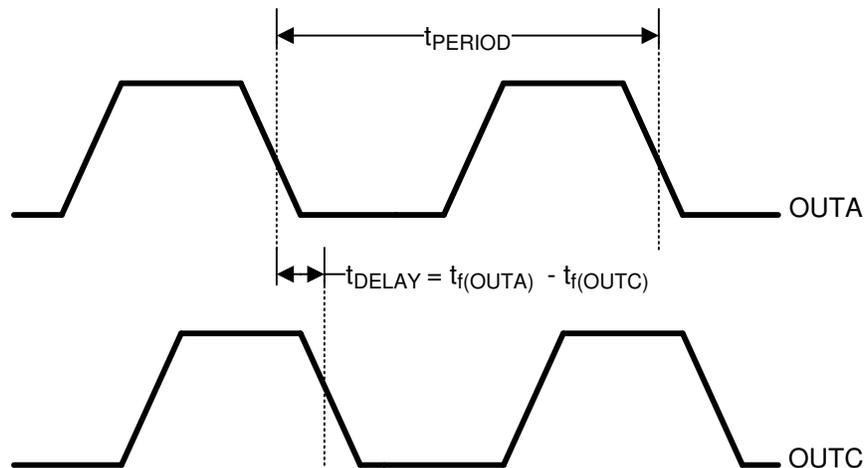
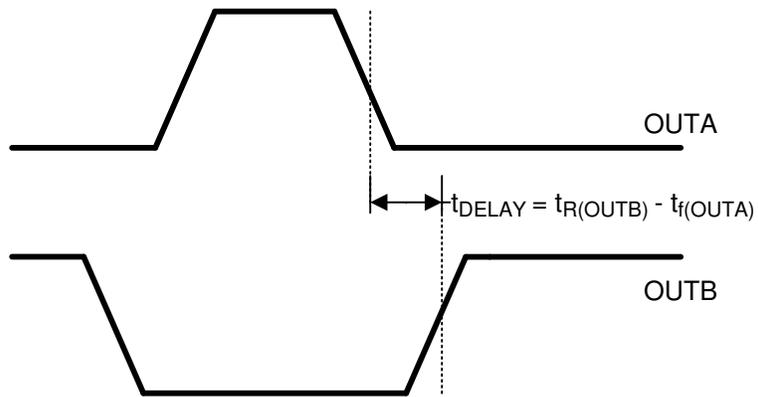

Figure 1. Same Applies to OUTB and OUTD
Figure 2. Same Applies to OUTC and OUTD
(2) Output delay is measured between OUTA and OUTB, or OUTC and OUTD. Output delay is defined as shown below where: $t_{r(OUTA)}$ = falling edge of OUTA signal, $t_{r(OUTB)}$ = rising edge of OUTB signal (see Figure 1 and Figure 2).